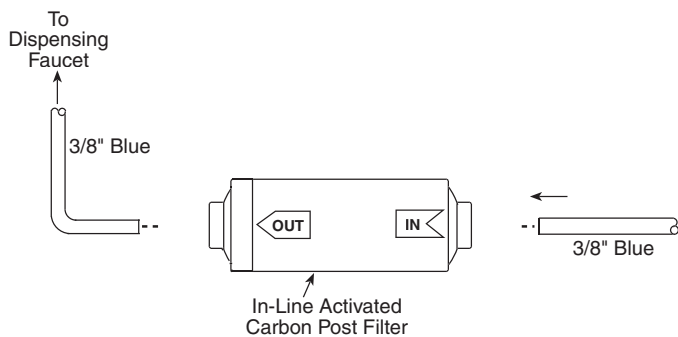

Figure 5
3. Remove the In-Line Activated Carbon Post Filter. Disconnect the used Post Filter by pressing in the connector's collar and at the same time pulling the tube out of the fitting. Firmly reconnect the polytubes to the new Post Filter. (Refer to Fig. 5 above.)